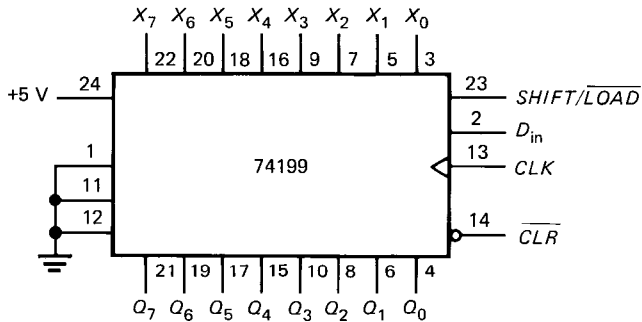

Fig. 8-30
- 8-5. The clock frequency is 2 MHz. How long will it take to serially load the shift register of Fig. 8-30?
- 8-6. In Fig. 8-30,  $\mathbf{Q} = 0001\ 0110$ . If  $\overline{SHIFT/LOAD}$  is high and  $D_{in}$  is high, what does  $\mathbf{Q}$  equal after three clock pulses?
- 8-4. A 74199 is an 8-bit shift-left register with a single control signal, as shown in Fig. 8-30. When  $\overline{SHIFT/LOAD}$  is low, the circuit loads the  $\mathbf{X}$  word on the next positive clock edge. When  $\overline{SHIFT/LOAD}$  is high, the register shifts the bits to the left.